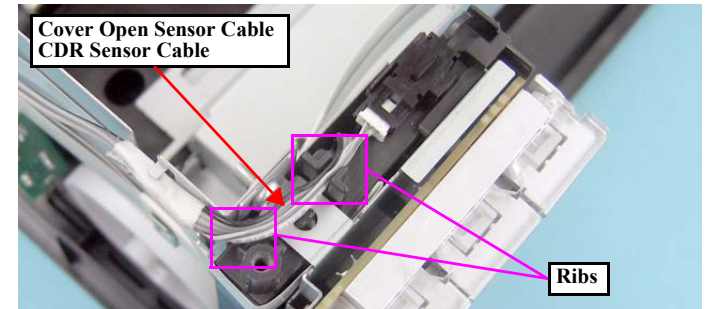

Figure 1-32. Installing the Panel Assy (1)
- As shown in Fig.1-32, route the CDR Sensor Cable and Cover Open Sensor Cable through the gap between the two ribs of the Open Sensor Holder.